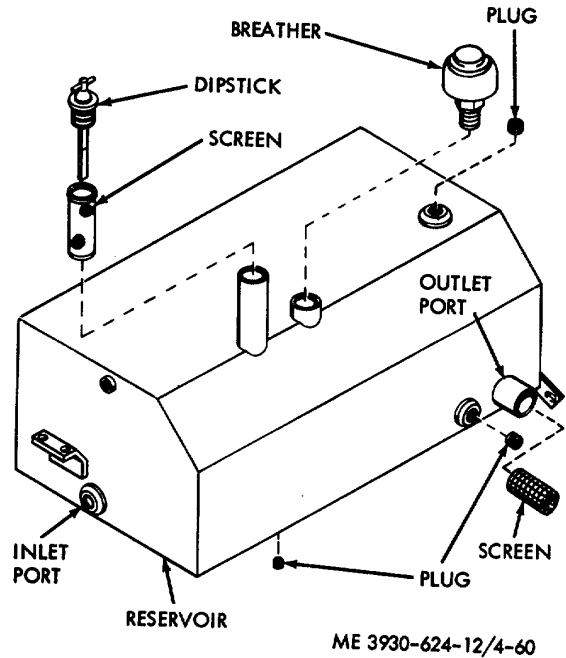

Figure 4-60. Hydraulic oil reservoir.
b. *Servicing.* Refer to figure 4-60.
a. *Removal and Disassembly.* (fig. 4-60.)
- (1) Unscrew the breather from the tapped hole in the reservoir.
- (2) Plug the hole in the reservoir to prevent the entry of dirt or moisture.
- (3) Remove the screw and lockwasher from the top of the cover and lift the cover off. Remove the filter element.